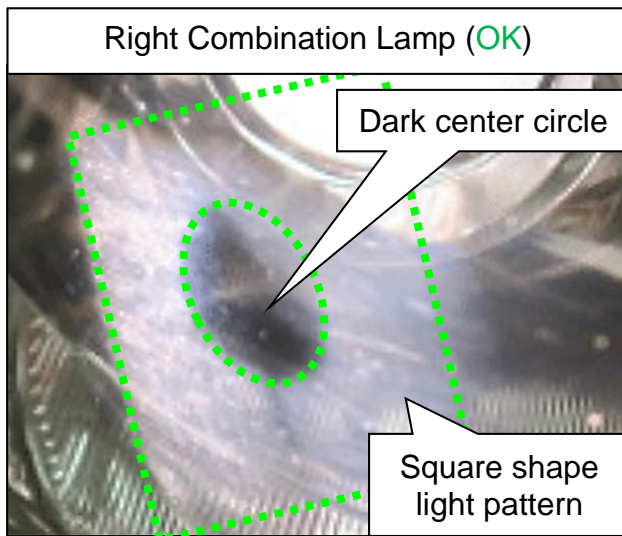
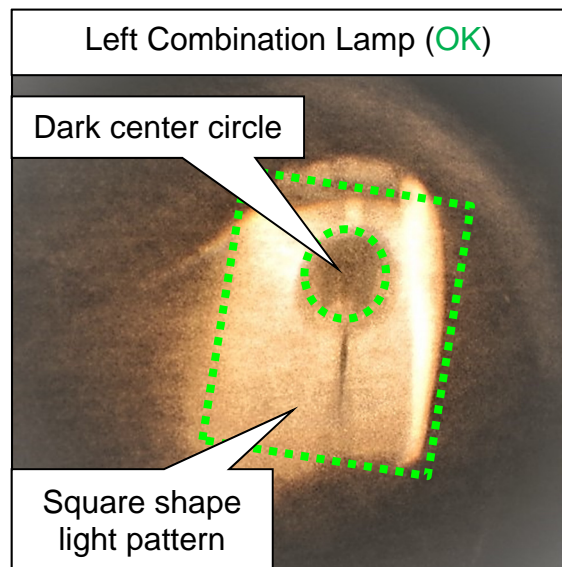
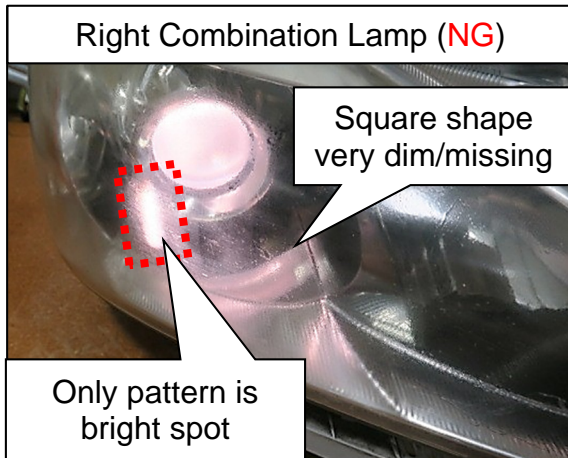
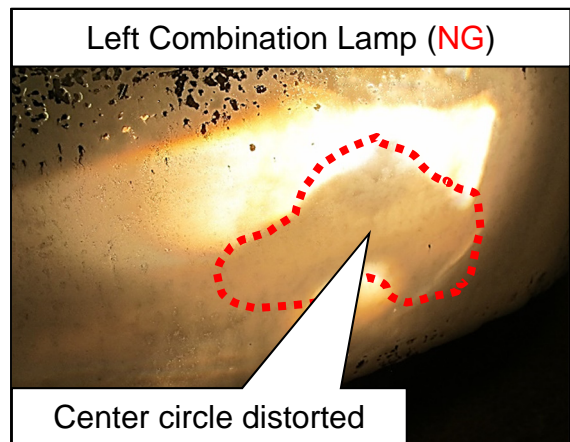

Figure 6
Figure 11
Figure 12
Figure 15
7. Visually inspect and compare the low beam light pattern projected on both of the headlamp lenses to the Good (OK) Examples (Figure 6 - Figure 11 on pages 4 and 5) and the No Good (NG) Examples (Figure 12 - Figure 15 on page 6).
- If the headlamp low beam light pattern condition is No Good (NG) for either of the headlamp assemblies: